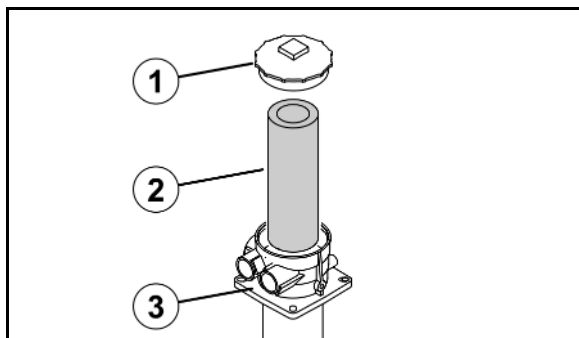

Fig. 186
1. Open the cover (Fig. 186/1) on the cabin roof, left side.
2. Unlock the filter (Fig. 186/2), take out and replace.